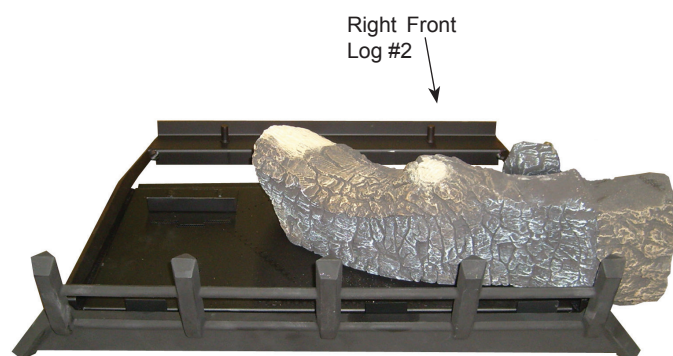

Figure 35.
2. Place front right log (#2) on right pin located on burner and right grate bar. Figure 35. After placing front right log, ensure log is fully upright and tilting towards the back of the burner.